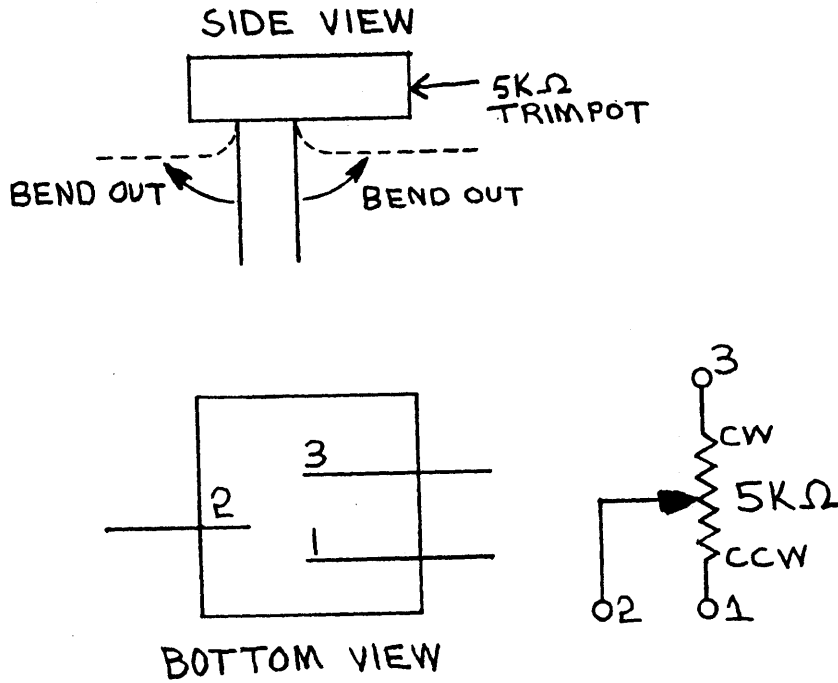

Figure 16. Trim-pot Preparation
- () Locate the 5000 ohm trim-pot in the CT2200 update kit and bend the leads out flat as shown in Figure 16.